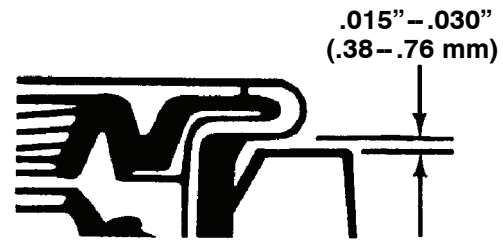

Figure 85.
- (e) After the seal is installed, a gap of 0.015–0.030 inch (.381–0.762 mm) can exist between the flange and the cage. The gap is a normal condition because of the flexible coating on the flange of the seal. Use a feeler gauge to measure the gap between the complete flange-to-cage area. If the gap varies more than 0.010 inch (0.254 mm) between the highest and lowest measurement, remove and again install the seal. Figure 85.